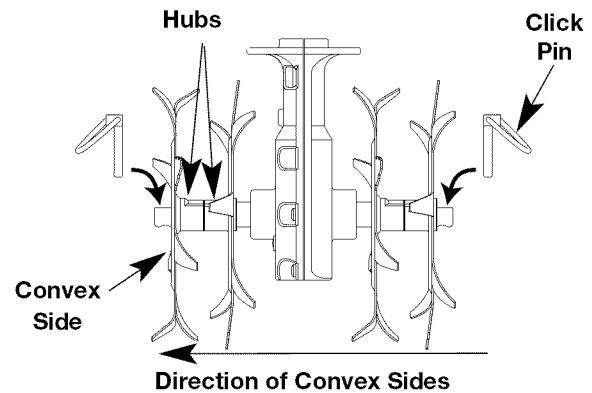

Fig. 9
2. Remove the click pin from each end of the tine shaft. Slide the tines off of the shaft (Fig 9).
4. Slide on the new tines with the hobs facing each other (Fig. 9).
**NOTE:** Each tine was a convex site. Make sure that all of the convex sides are facing as shown in Figure 9.